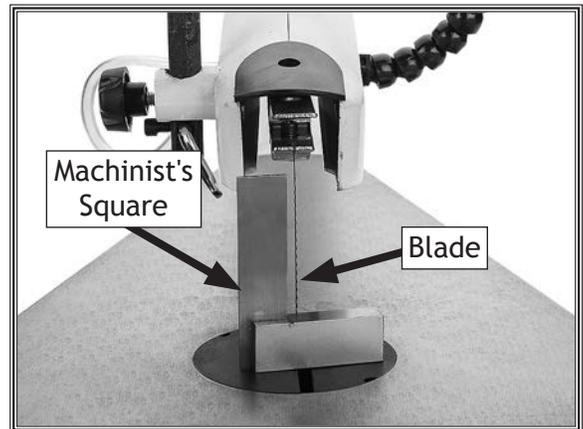

Figure 34. Squaring table to blade.
4. Place machinist's square behind blade, as shown in **Figure 34**.